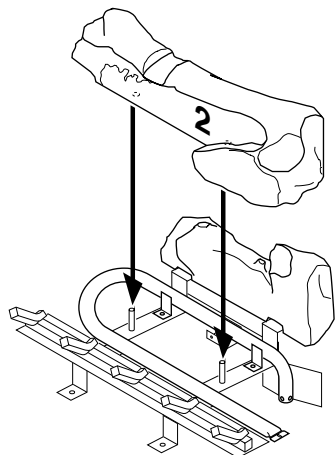

Figure 55 - Installing Log No. 2
2. Rest log #2 (large front log) on the pins on the front part of the grate (see Figure 55).